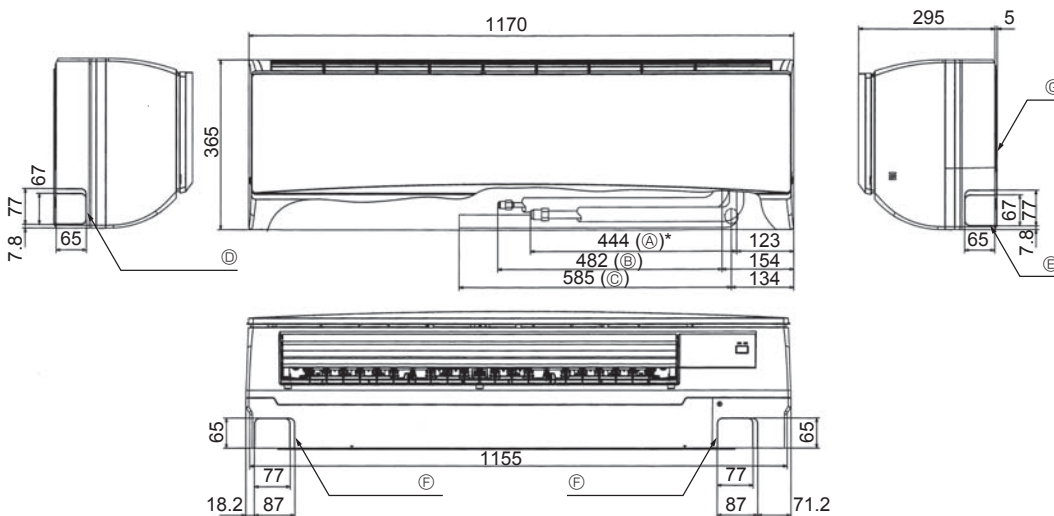

Fig. 4-2
4.3. Positioning refrigerant and drain piping (Fig. 4-2)